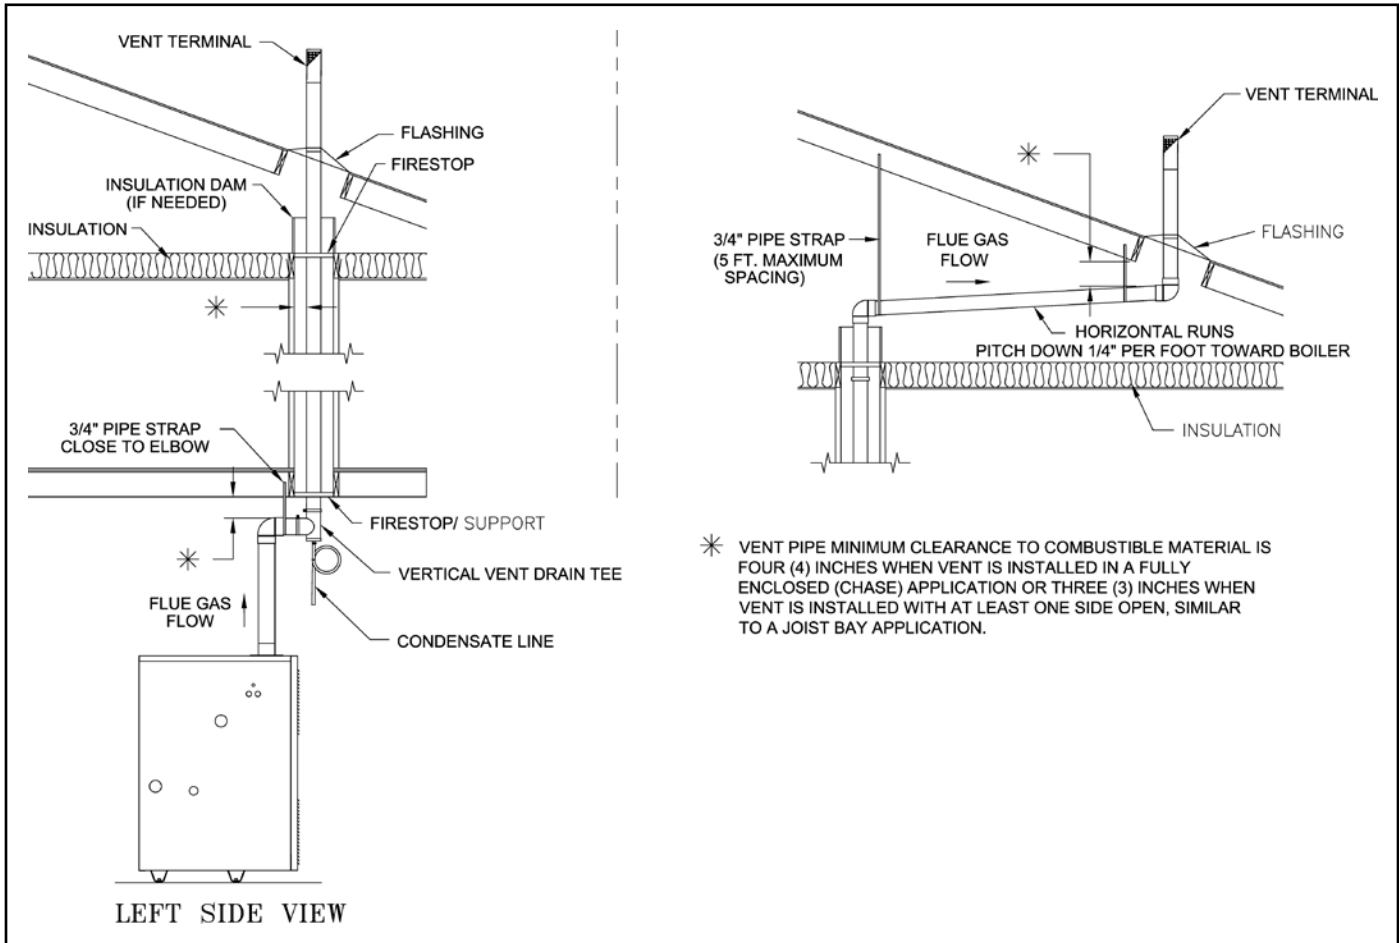

Figure B-6: Typical Vertical Stainless Steel Venting
1. Install vent and intake piping per Figures B-6 thru B-8.